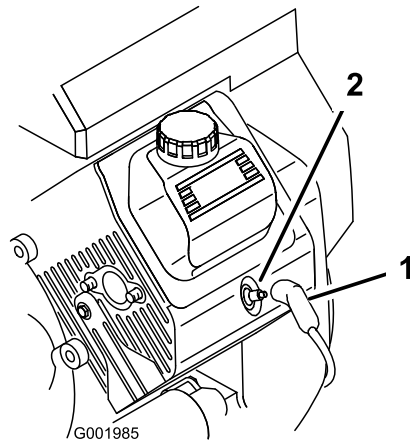

Figure 53
3. Pull the wires off the spark plugs (Figure 53).
3. Push the wires onto the spark plugs (Figure 53).